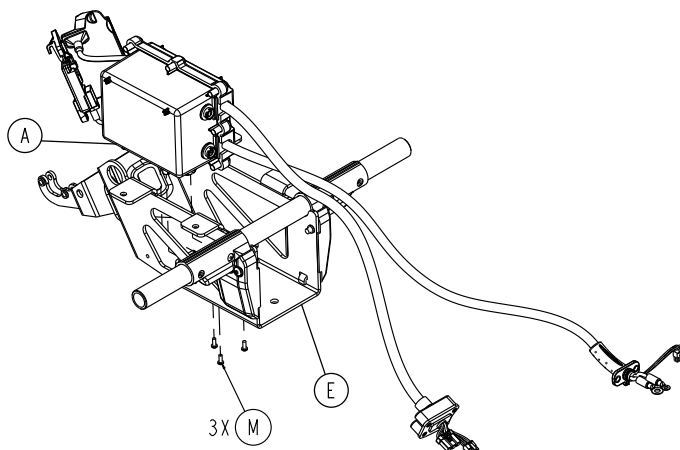

Figure 61 – Remove the HBC enclosure assembly screws
6. Using a T20 Torx driver, remove the three pan head tapping screws (M) that secure the HBC enclosure assembly (A) to the birdcage (E) (Figure 61). Save the screws.